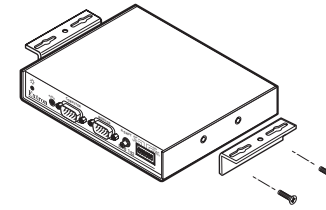

Figure 2-1 — Under-desk mounting
- 1 Secure the included under-desk mounting brackets (part #70-077-01) to the interface with the machine screws that are already installed in the side of the interface (figure 2-1).